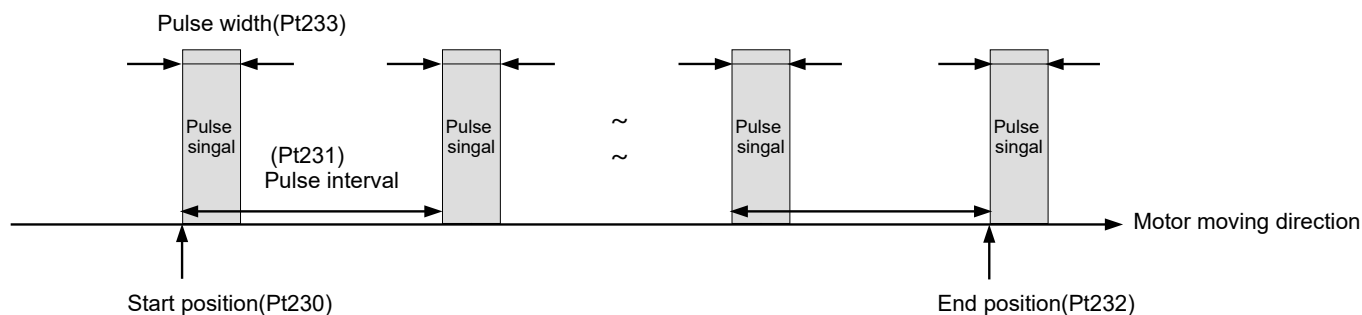

Figure 8.13.1
E1 series servo drive provides position trigger (PT) function. This function supports fixed interval pulse trigger, random interval pulse trigger and random interval trigger status mode. Take pulse trigger output for example, when motor moves to the set position, the servo drive simultaneously outputs a pulse signal. The width and polarity of the pulse signal can be user-defined, as shown in figure 8.13.1. A user can refer to table 8.13.1 for detailed specification and function descriptions. Position trigger function has no human machine interface, so its related parameters must be set via PDL or MPI. The hardware pins for position trigger digital output (PT) signal are CN6 46 and 47 (3.3 V/50 mA). The signal can be allocated to digital outputs O1~O5 (24 V), if users cannot support such voltage level. Position trigger (PT) function is mainly used in application which requires simultaneous in-position signal for high-speed and high-precision processing, such as laser equipment, line scan camera and lithography equipment.
When the motor moves to the set start position (Pt230), the drive will output the first pulse signal synchronously. When the motor moves to the position of next pulse interval (Pt231), the drive will output next pulse signal. The drive will synchronously output pulse signals in sequence until the motor moves beyond the end position (Pt232), as shown in Figure 8.13.1.